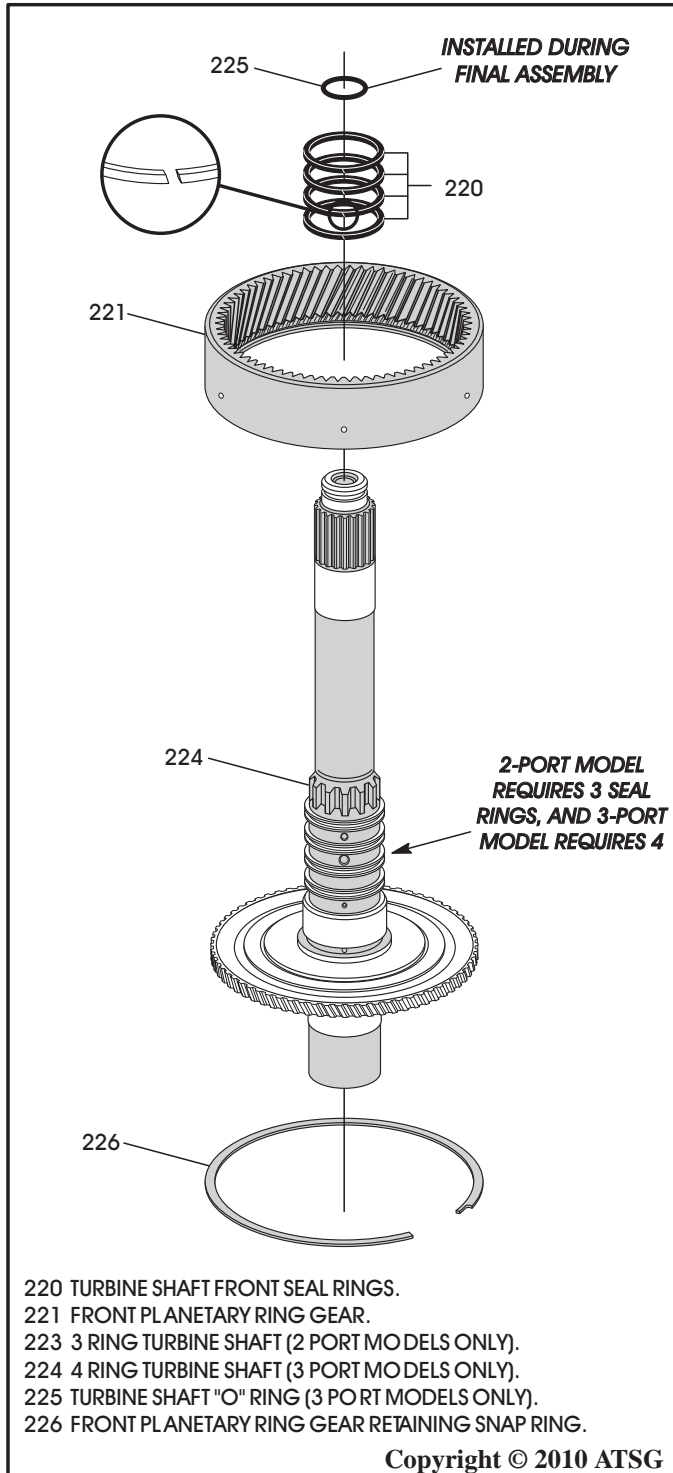

Figure 148
4. Install front planet ring gear on turbine shaft and secure with snap ring (See Figure 148).
5. Install required amount of turbine shaft sealing rings on turbine shaft, as shown in Figure 148.